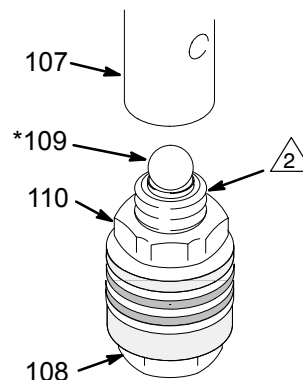

Fig. 20
- Tighten the nut (110) onto the piston valve (108) to 2 in-lb (0.23 N.m). See Fig. 20.
**NOTE:** Note the alignment of the piston (108) to the nut (110). Maintain this alignment through Step 8.
- Place the ball (109\*) on the piston valve (108). See Fig. 20.